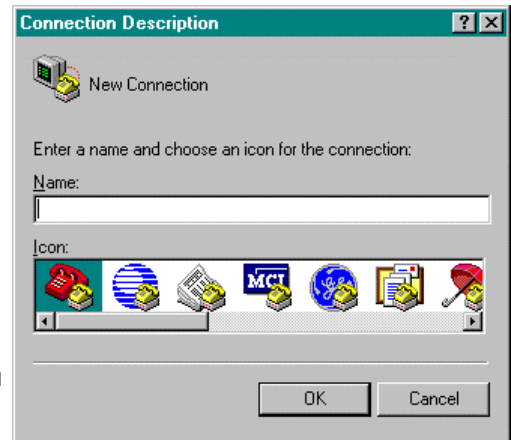

Figure A-1. Connection Description Dialog Box
- Step 4. Dialog Box: CONNECTION DESCRIPTION See Figure A-1.